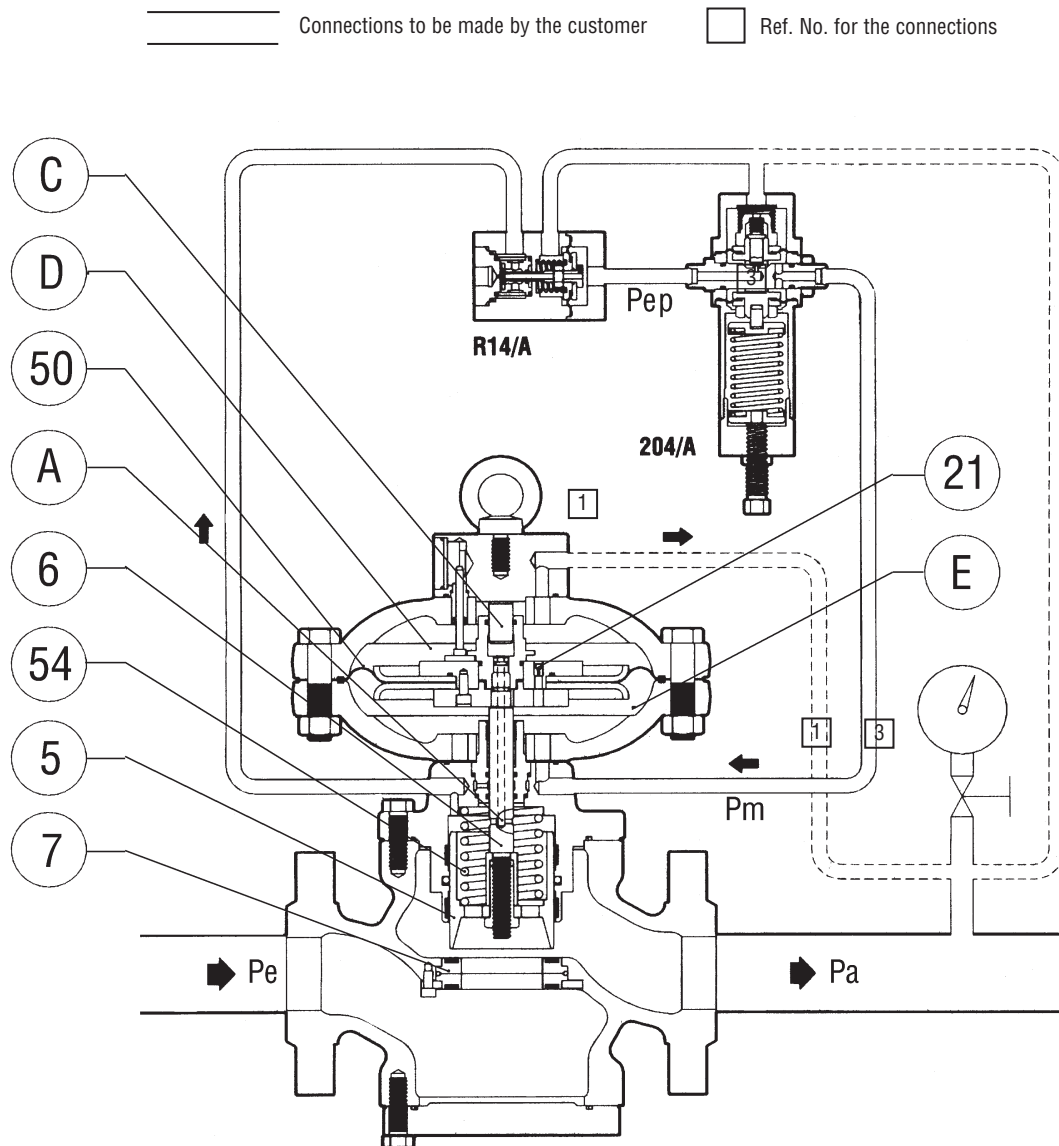

Fig. 1
1.2 OPERATION (FIG. 1)
In the absence of pressure, the obturator 5 is maintained in the closed position by the spring 54, and rests on the reinforced gasket 7 (fig. 1). The upstream pressure, even if variable, does not change this position as the obturator is completely balanced and is therefore subject to equal pressures, even if the sections are different.
The set-point can be changed by turning the adjustment screw 10; clockwise rotation increases P_m and therefore the regulated pressure, P_a ; the opposite occurs when the ring is turned anticlockwise. If, for example, the downstream pressure, P_a , drops during operation (because of an increase in the requested flow rate or a drop in the upstream pressure) an imbalance occurs in the mobile assembly 15 of the pilot, which is displaced to increase the opening of the obturator 17. As a result, the motorisation pressure value, P_m , increases and, by acting in the chamber E under the diaphragm 50 (fig. 1), causes the obturator 5 to move upwards and therefore an increase in the opening of the regulator until the set-point of the regulated pressure is restored.